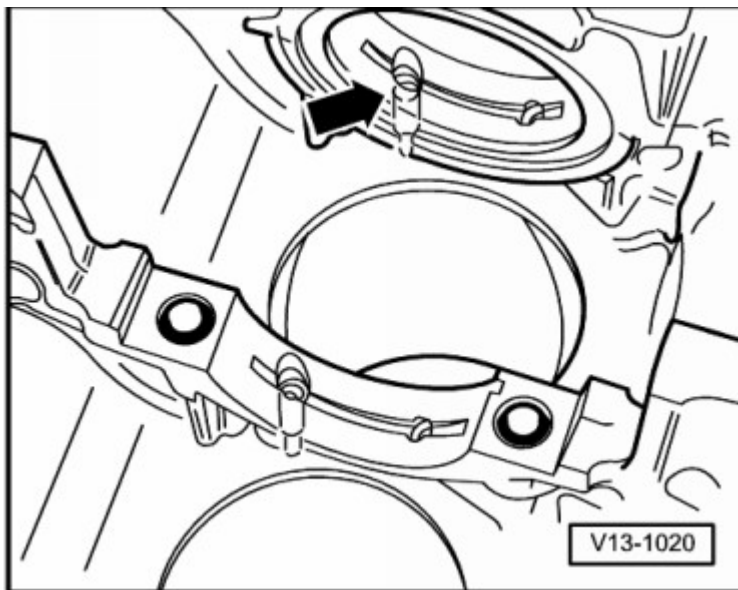

Fig. 8: Identifying Oil Spray Jet Application Area
- Removing and installing **Fig. 8**